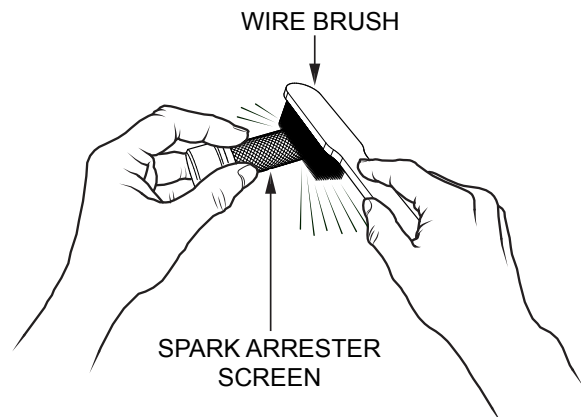

Figure 57. Cleaning the Spark Arrester
4. Carefully remove carbon deposits from the spark arrester screen (Figure 57) with a wire brush.